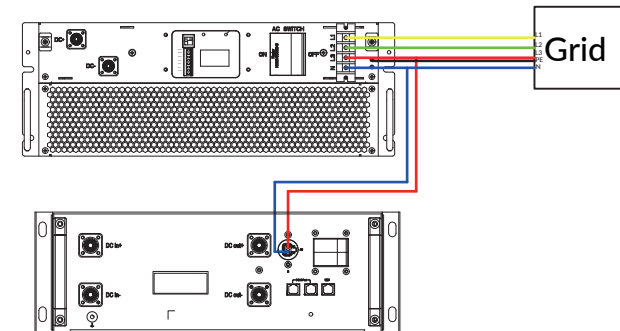

Figure 4-21 AC Auxiliary Power Cable Connection
- b. Remove the power cable bond from the packing list of cabinet and attach the cable bond to the power cable from the grid, as shown in Figure 4-21.